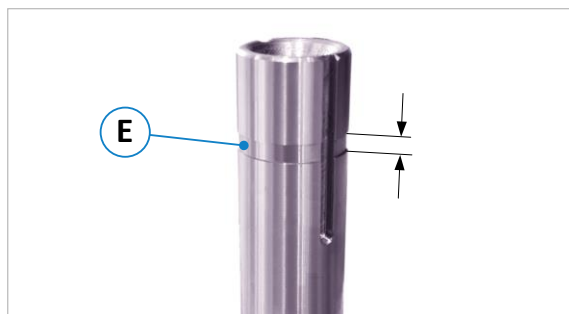

Figure 17: Marking for upper spacer ring
1. Loosen the clamping screw (C) on the quick-release nut (M) with the supplied SW4 pin spanner.
2. Then fully tighten the fixing screw (F) by hand and remove the quick-release nut (M) by taking it out.
3. Remove the spacer rings (D) and put on the new cutter head.
4. Put on the required spacer rings (D), if necessary. Place enough spacer rings so that the upper clamping surface of the upper ring is in the area (E) of the marking groove shown in ⇒ Figure 17.
5. Then put the quick-release nut (M) back on and tighten the fixing screw (F) by hand.
6. Now tighten the clamping screw (C) with the SW4 pin spanner → Tightening torque = **12 Nm**.
**With 12 Nm tightening torque of the clamping screw (C), the cutter is clamped with approx. 30 kN (= 3 t).**
- After the tool change, unlock the emergency stop button (4) again.